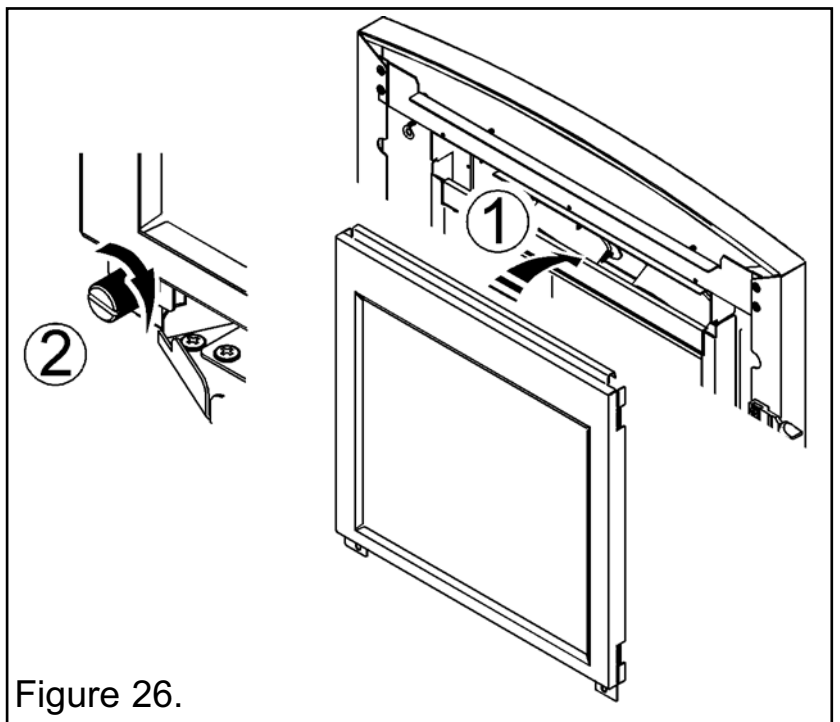

Figure 26.
1. Locate the window assembly as in figure 26.